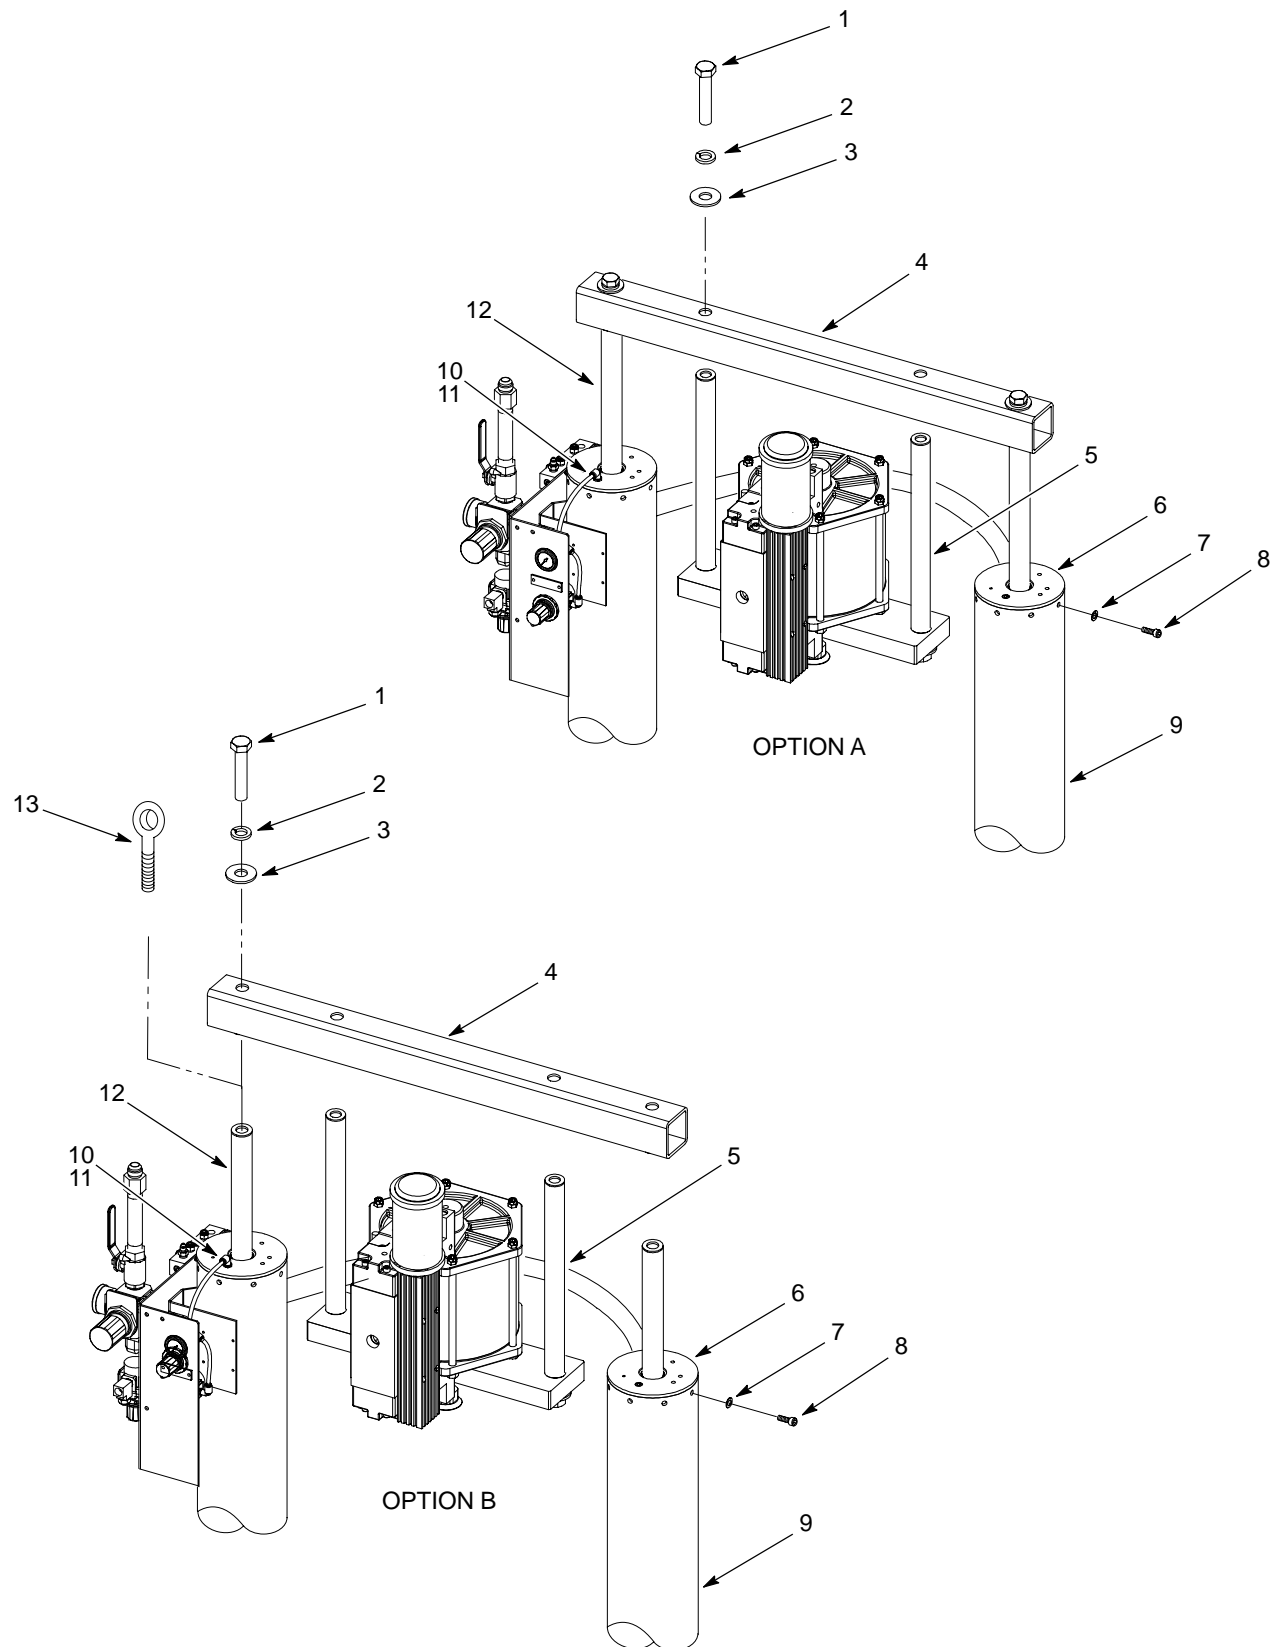

Figure 2 Removing the Cylinder Shafts
1. See Figure 2, Option A. Remove the screws (1), lock washers (2), and flat washers (3) securing the crossover (4) to the mounting rods (5).
2. Disconnect the tubing (10) from the fitting (11)
3. Remove the cap screws (8) and washers (7) from the air cylinders (9). Note the orientation of the cylinder heads (6).
4. Attach the lifting device to the middle section of the crossover (4) and remove both cylinder shafts (12) from the air cylinders (9).
1. See Figure 2, Option B. Remove the screws (1), lock washers (2), and flat washers (3) securing the crossover (4) to the mounting rods (12) and cylinder shafts (5).
2. Disconnect the tubing (10) from the fitting (11).
4. Thread the  $\frac{7}{8}$ -14 eye bolts (13) into each cylinder shaft (12). Attach the lifting device to an eye bolt. Use the lifting device to remove the cylinder shaft from the air cylinder (9). Remove the remaining cylinder shaft in the same manner.
- flat washers (14)
- lock washers (15)
- shaft screw (16)
- Tighten each screw (16) to 250 ft-lb (339 N•m).
- Lubricate the piston seal (11) with O-ring lubricant.
- Carefully guide the cylinder shaft (7) into the air cylinder (19) until it bottoms out. Install the remaining cylinder shaft in the same manner.
- Orient the cylinder heads (4) as noted during removal.
- Install each cylinder head (4) into an air cylinder (19). Install the washers (17) and cap screws (18) into each cylinder. Tighten each screw (16) to 10–15 ft-lb (14–20 N•m).
- Connect the air tube (20) to the fitting (21).
- Install any device or bracket that was removed from the top of the cylinder head (4).
- See Figure 2, Option B. Apply Loctite 242 to the threads of the screws (1). Install the crossover (4) to the cylinder shafts (12) and mounting rods (5) using the screws, lock washers (2), and flat washers (3). Tighten the screws to 250 ft-lb (339 N•m).